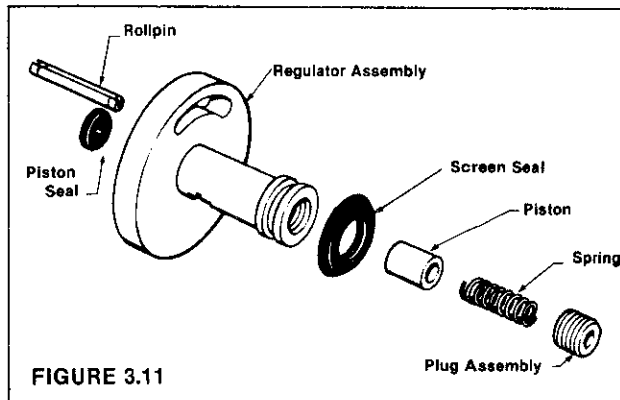

FIGURE 3.11
STEP 11 Disassemble the transfer pump regulator components (Figure 3.11). Remove the inlet filter screen seal. Remove the end plate adjusting plug assembly with 5/32 inch hex key wrench, 13336. Shake the regulating spring and piston out of the regulating assembly. Using tool 13301, remove the regulating piston seal from the regulator.